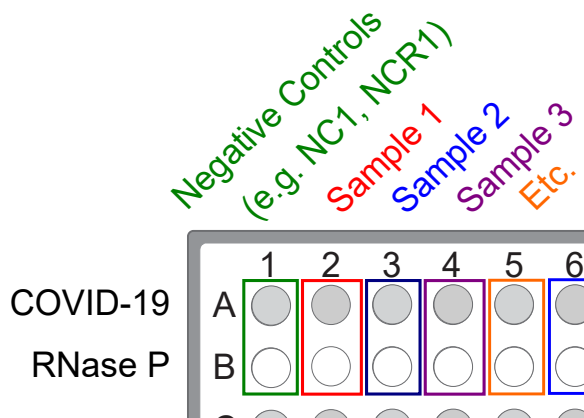

Figure 6 Paired sample and Negative Control wells for each assay
- Unseal the extraction plate, then add Negative Control from the single well of the extraction plate to wells A1 and B1 of the reaction plate, as shown in Figure 6 on page 57.